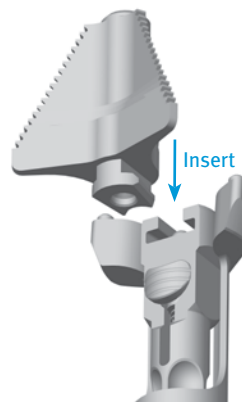
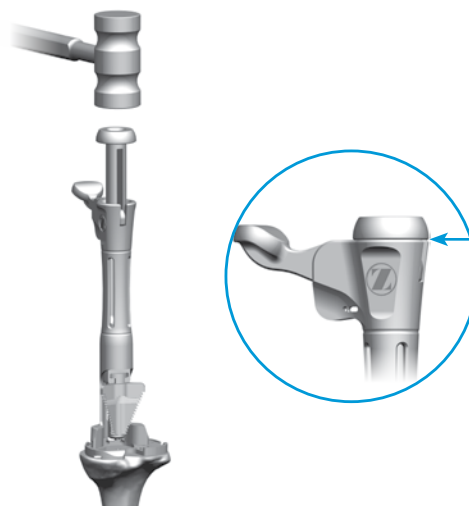

Fig. 55
Fig. 56
- Insert the correct-sized Cemented Tibial Broach into the Cemented Tibial Broach Inserter/Extractor Handle, (Fig. 55). Retract the impaction head until it locks in the fully retracted position, which will facilitate placement on the Cemented Tibial Sizing Plate. After seating the Cemented Tibial Broach Inserter/Extractor Handle on the Cemented Tibial Sizing Plate, tap the impaction head once to seat the Cemented Tibial Broach. Impact the Cemented Tibial Broach Inserter/Extractor Handle assembly with care to prevent fracture of the tibia (Fig. 56). Impact until the impaction head bottoms out on the Cemented Tibial Broach Inserter/Extractor Handle stop (Fig. 56 inset). While holding the Cemented Tibial Broach Inserter/Extractor Handle, impact the extraction button to remove the Cemented Tibial Broach from the bone (Fig 57). Avoid dislodging the Cemented Tibial Sizing Plate when removing the Cemented Tibial Broach Inserter/Extractor Handle.